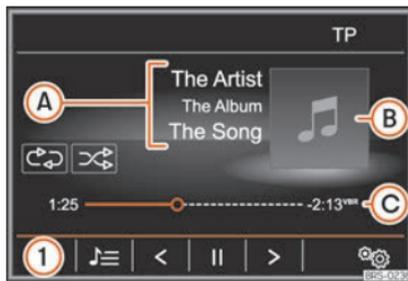

Fig. 210 Menu principal MÉDIA.
- Pressione o botão **(MEDIA)** do infotainment para abrir o menu principal *MEDIA* » **Fig. 210**.